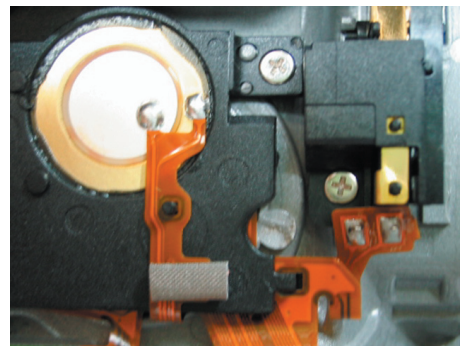

Fig. 059
- (2) Attach the gasket to the back of the Top Cover Ass'y as shown in Fig. 059.
(3) Insert the connector to the end, making sure it is in the correct direction.